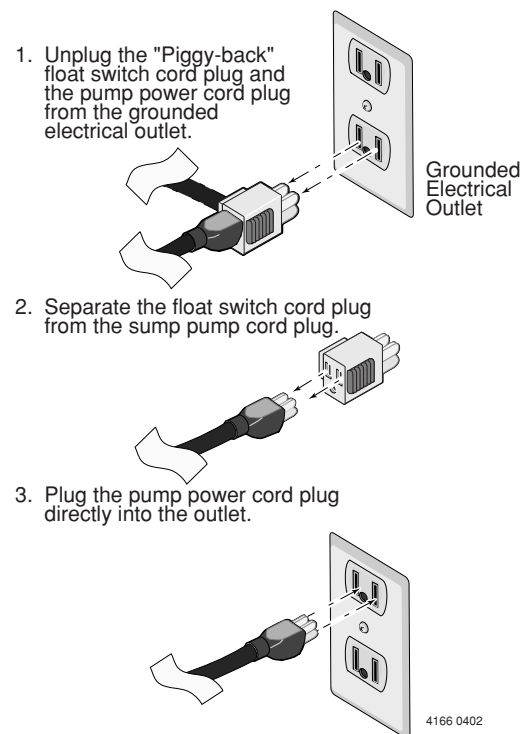

Figure 2 - To bypass the float switch
- 2B. If the sump pump has a piggy-back type power cord, remove the float switch power cord plug from the outlet and plug the pump power cord directly into the outlet. See Figure 2.